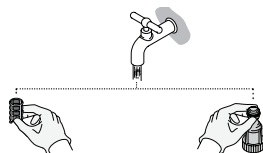

Fig. 25-2
- > Rinse the water filter (18a) with clear water (Fig. 25-2).